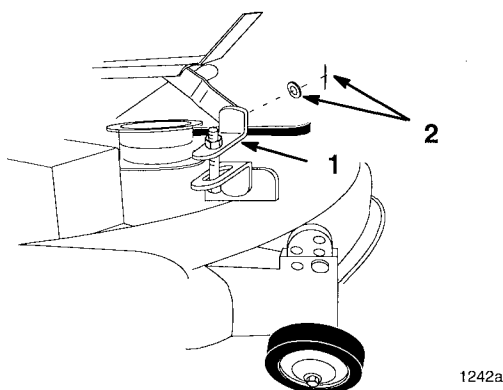

Figure 11
4. Remove hairpin cotter and washer from front adjustable link(s) and remove from front lift arm (Fig. 11).